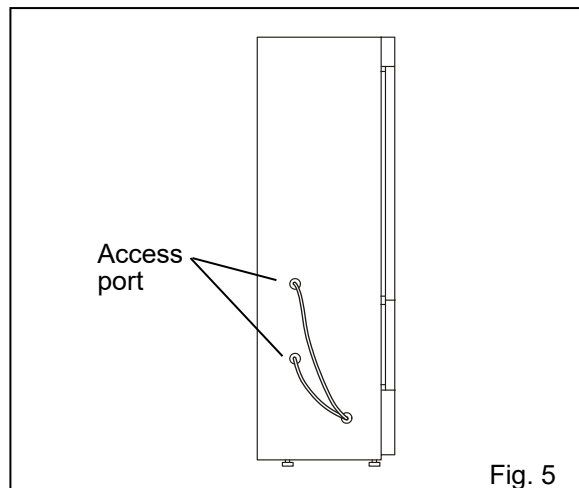

Fig. 5
5. Remove the caps (both outside and inside) covering the access port for refrigerator and freezer and take out the thermal insulation in the port. Pass the recorder sensor to the chamber through each port [Fig. 5]. Then replace the thermal insulation and caps (both outside and inside). Also, replace the cap on the port for taking out the recorder sensor.